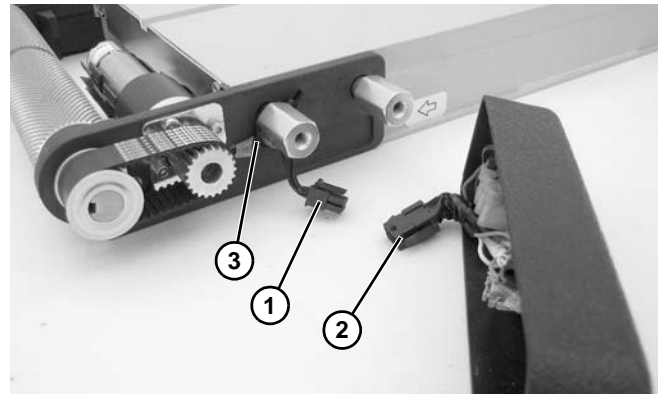

Figure 118
3. Unplug motor connector (**Figure 118, item 1**) from cover wiring connector (**Figure 118, item 2**), and cut cable tie (**Figure 118, item 3**) from conveyor.